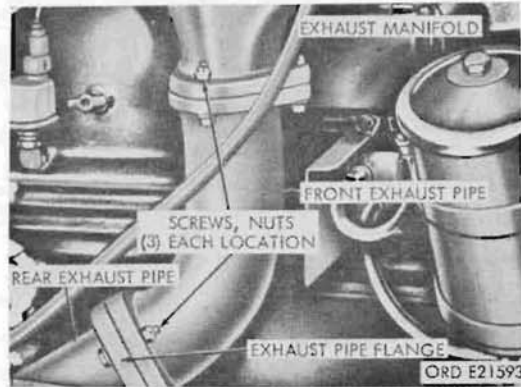

Figure 131. Exhaust pipe disconnect points
a. Removal. Remove three nuts and screws at flanges between the front exhaust pipe and the exhaust manifold (fig. 131), and separate the pipe from the manifold. Discard the gasket. Loosen three nuts and screws holding the rear exhaust pipe flange to the front exhaust pipe flange. Turn the rear flange to free the front pipe and discard the gasket. Loosen the U-bolt on the muffler-to-exhaust pipe clamp (fig. 294) securing the rear pipe to the muffler. Remove the screw and nut holding the rear pipe in the rear exhaust pipe bracket, and remove the rear pipe. Remove the flange from the rear pipe only if necessary.
b. Installation (Fig. 131). Install the flange (if removed) on the rear pipe. Position the rear pipe in the pipe bracket and front end of the muffler. Install the hex-head capscrew and safety nut in the bracket, but do not tighten. Position the U-Bolt clamp securing the pipe to the muffler, but do not tighten the nuts. Connect the front pipe to the exhaust manifold, using a new exhaust pipe gasket and the three hex-head split lockwasher screws and